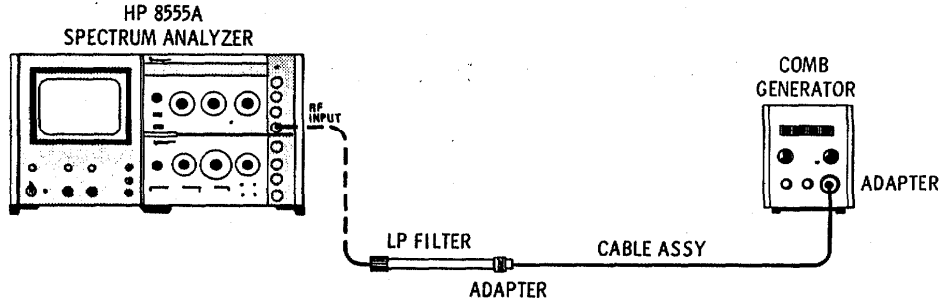

Figure 4-9. Residual FM Test Setup
1. Set the comb generator for a 100 MHz comb and connect the test setup shown in Figure 4-9. Set the analyzer controls as follows: